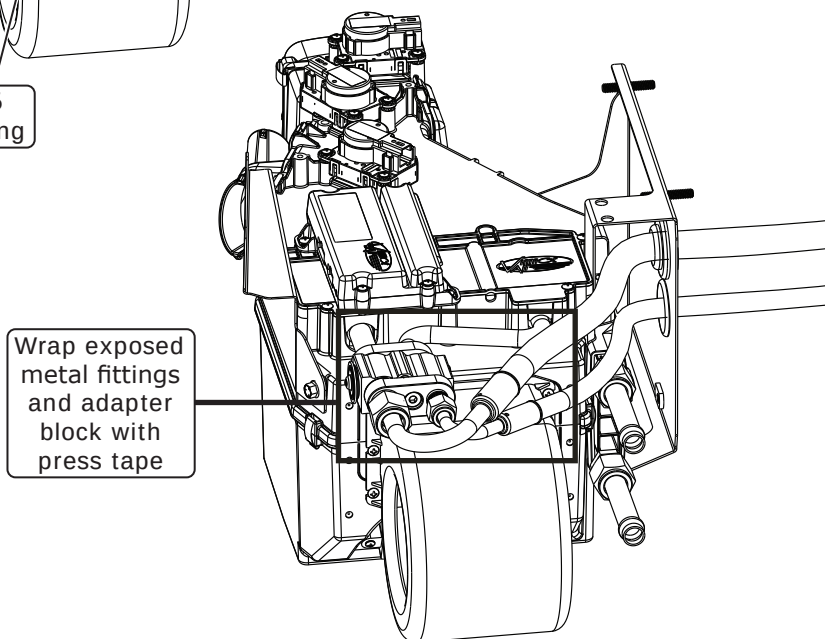

Figure 6
16. Wrap exposed metal fittings and adapter block with press tape (See Figure 6, below).